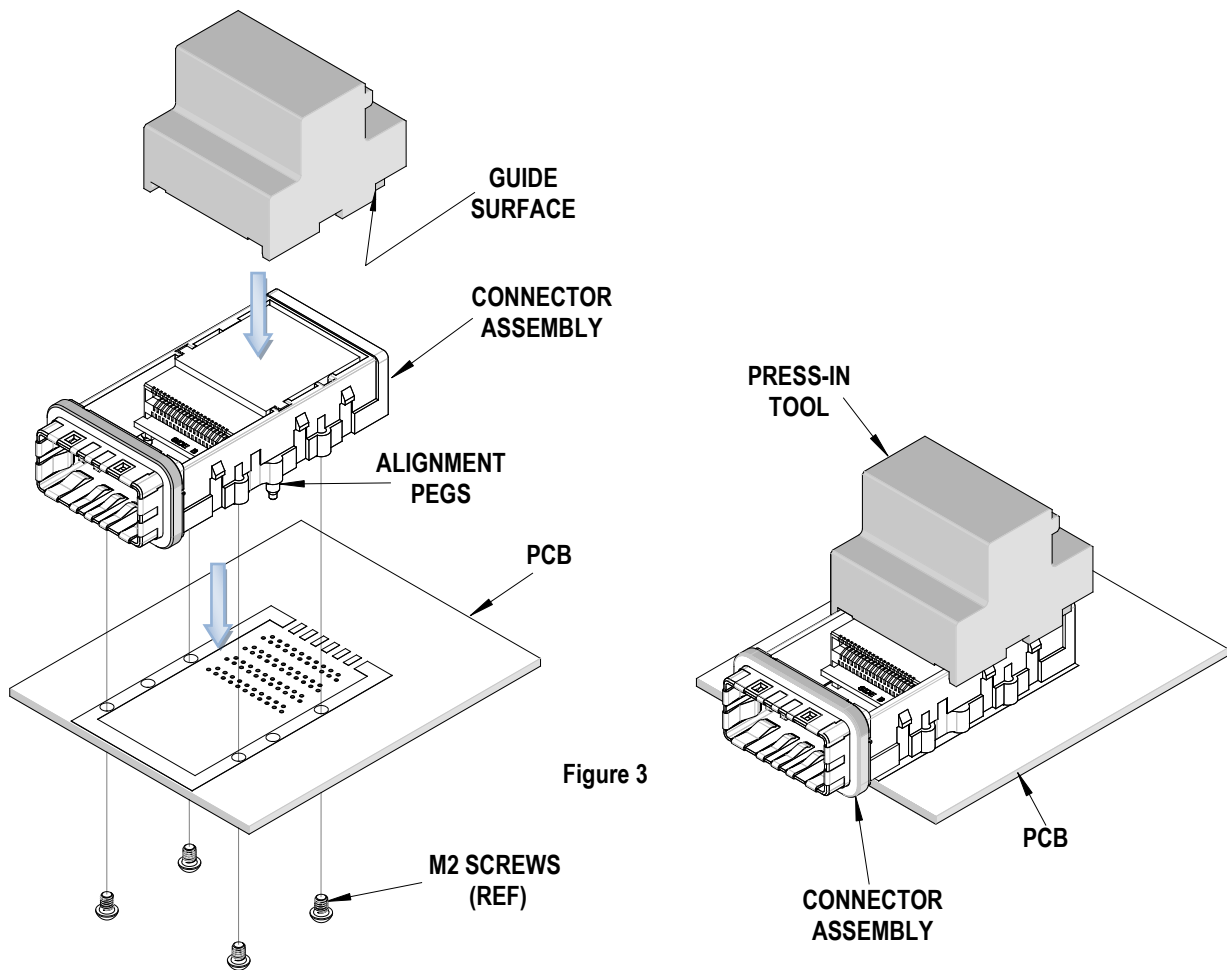

Figure 3
1. Carefully insert, by hand, the connector assembly (*without the cover*) using the alignment pegs (2) for location on the PCB.
2. Place the press-in-tool on top of the connector assembly with the back and side guide surfaces of the tool against the back and side(s) of the connector assembly. See Figure 3.